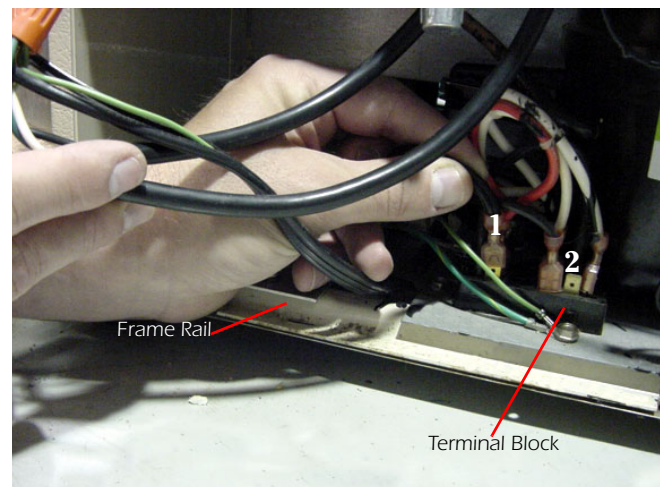

Figure 5: Terminal Block Locations
6. Detach the smooth black wire of the incoming AC power (it will be spliced from a wire nut) from the left side of the terminal block (see Figure 5, #1). Connect it to the relay terminal marked **BLK** or **2**.
8. Install the white lead assembly from your kit to the relay terminal marked **WHT** or **1**. Connect the other end to a vacant terminal on the right side of the terminal block (See Figure 5, #2).